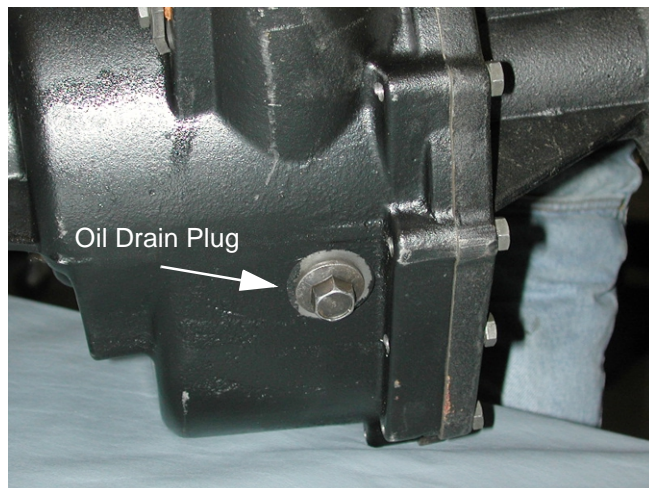

Figure 2
2. Remove and set aside the oil drain plug using a 16mm socket. See Figure 2.